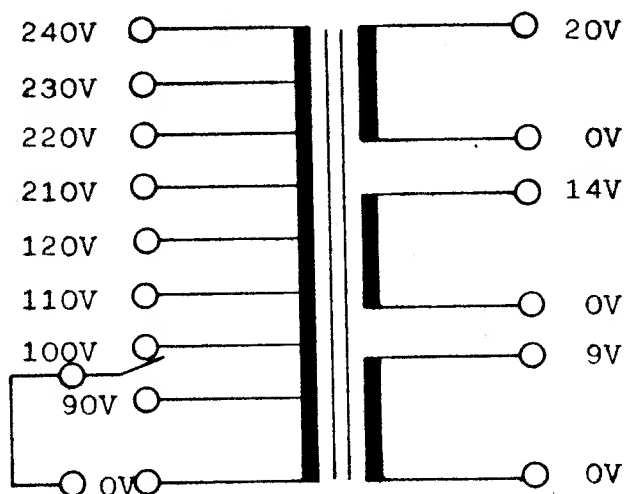

Fig. 6
9. Adjustments of Supply Voltage (See Fig. 6)